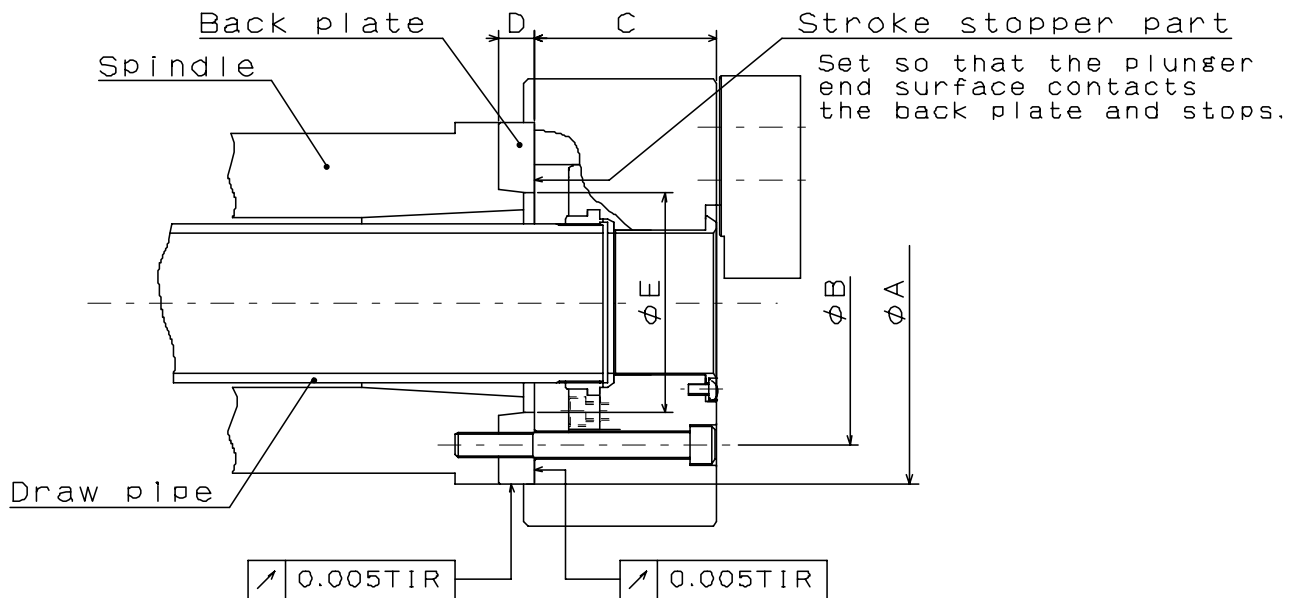

Fig.17
- Fig.17 shows the case of the JIS short taper standard.
- Determine the dimension (dimension ϕE in Fig.17) of the back plate so that the plunger nut end surface contacts the back plate and stops when pulling the plunger nut. If the stroke is larger than the one specified, it may cause a chuck breakage or gripping failure.